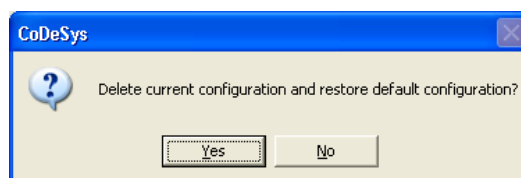

Figure 2-3-16 “Extras” Menu (4)
- **Standard configuration:** select this option to open a dialog as shown in figure 2-3-16, then click on “Yes” to restore default configuration or click on “No” to keep current configuration.